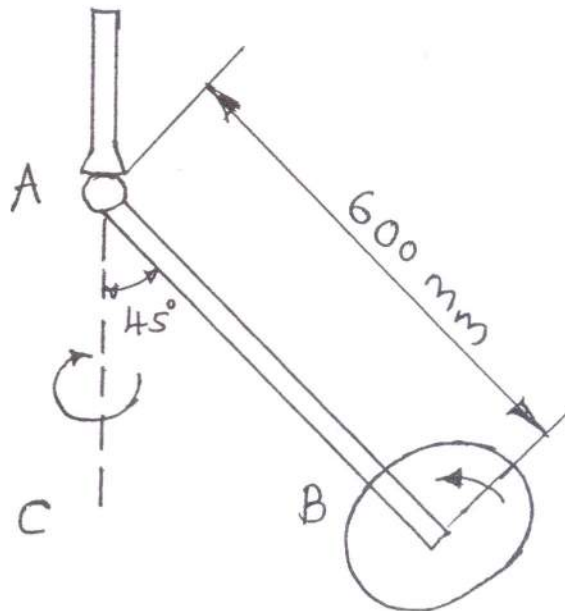

Fig. 5
9. A uniform thin disc of 150 mm diameter is attached to the end of a rod AB of negligible mass which is supported by a ball and socket joint at point A as shown in fig. 5. The disc is spinning about its axis of symmetry AB at the rate of 2100 r.p.m in the sense indicated and that AB forms an angle of  $45^\circ$  with the vertical axis AC; Determine the two possible rates of steady precession of the disc about the axis AC.